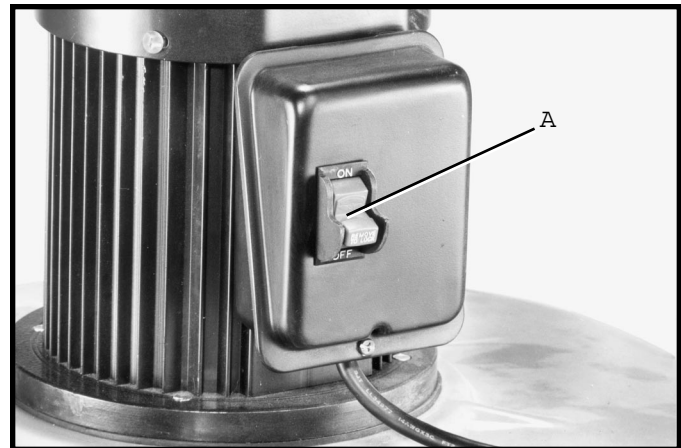

Fig. 22
The ON/OFF switch is conveniently located on the side of the motor. To turn the dust collector ON push the switch (A) Fig. 22, upward to the ON position. To turn the dust collector OFF, push the switch down to the OFF position.